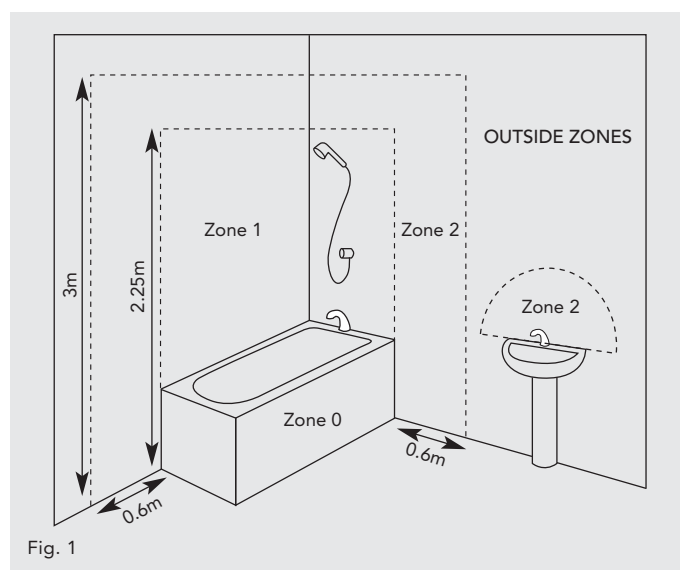

Fig. 1
- This unit may be fitted in zone 2 or the outside zones of a bathroom, in accordance with local or national wiring regulations (see fig. 1).